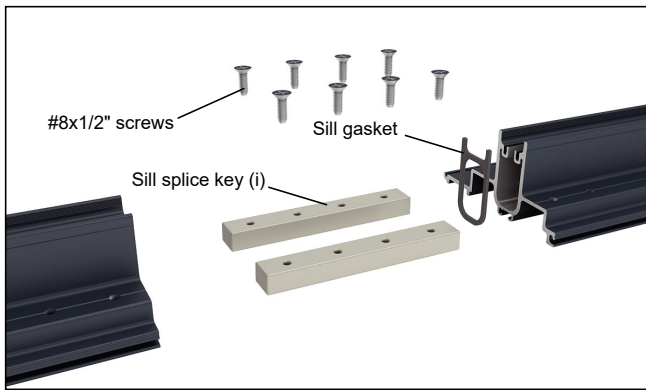

Figure 1
1. Lay out the performance sill in the correct configuration on a flat surface next to the opening. All sill tracks must be in correct sequence, ensure that all drainage routs and thermal break cuts line up with adjacent sill tracks. The sill must be spliced together prior to connecting in parallel. Apply a sill splice gasket and install two die cast sill splice keys to each splice using the provided #8x1/2" screws. See figure 1.